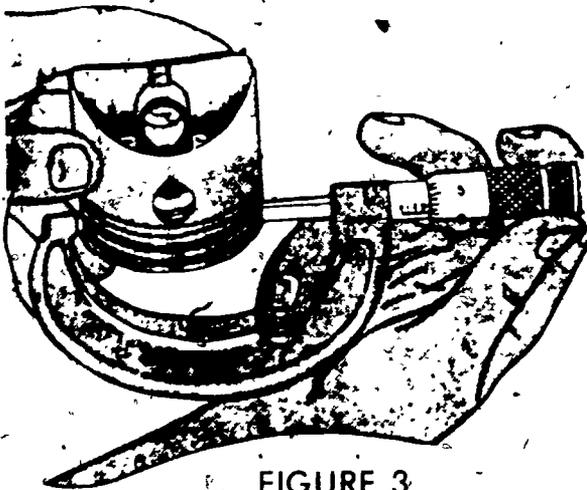

FIGURE 3
- E. Take piston measurement at the head and skirt (Figures 3 and 4)